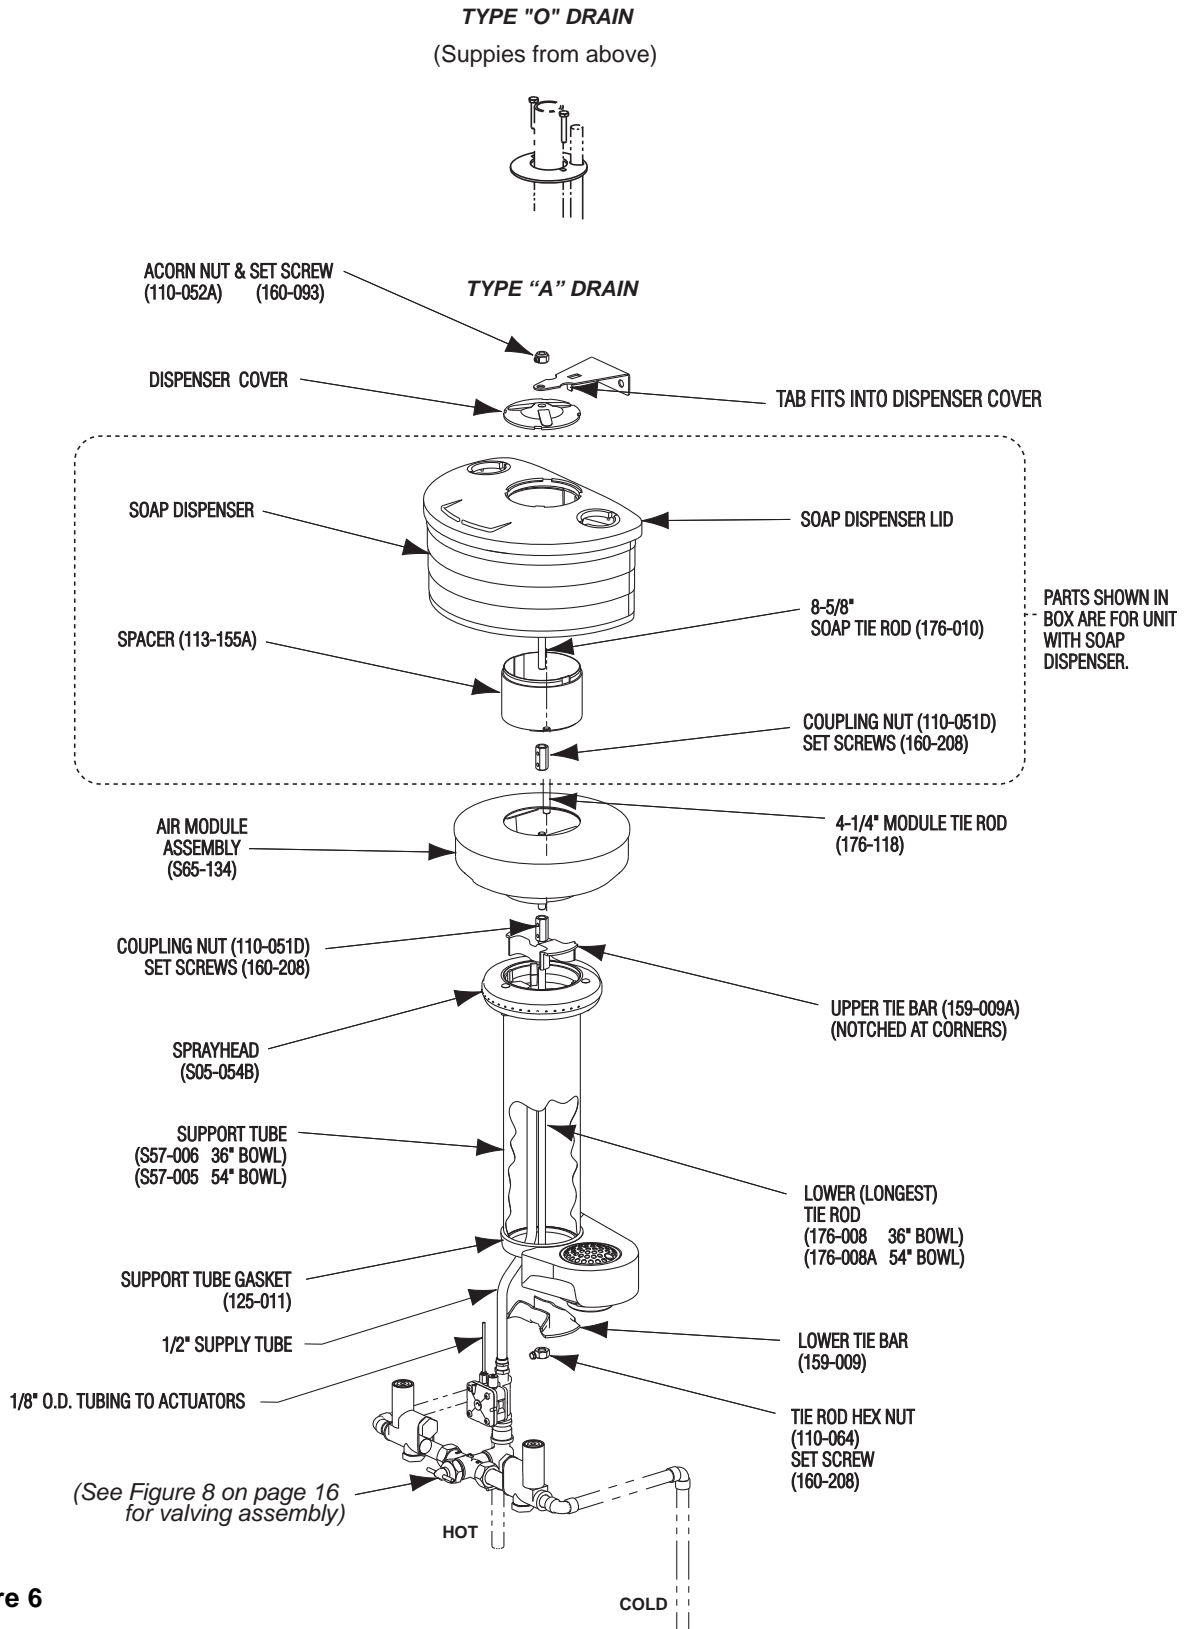

Figure 6
1. Install hemmed end (not sharp end) of support tube (welded seam toward wall) with gasket onto bowl as shown in Figure 6 on page 13.
3. Place sprayhead with 1/2" tubing onto support tube as shown in Figure 6. Run tubing down through support tube. *Make sure spray holes point away from the wall.*
4. Assemble the lower tie rod (the longer threaded rod), upper tie bar (notched at corners), lower tie bar, tie rod nut, and coupling nut, then attach the 4-1/4" tie rod to coupling nut as shown in Figure 6. Upper tie bar must be parallel to wall.
- 6a. **FOR UNITS WITH SOAP OPTION:** Install the spacer, soap dispenser and dispenser cover and restraining bracket using the coupling nut, third tie rod (8-5/8" long) and second coupling nut as shown (see Figure 6). Secure with acorn nut and socket head set screw. The tab on the restraining bracket should fit in a notch in the dispenser cover (see Figure 6).
- 6b. **FOR UNITS WITHOUT SOAP OPTION:** Secure module cover and dispenser cover and restraining bracket with acorn nut and socket head set screw. The tab on the restraining bracket should fit in a notch in the dispenser cover (see Figure 6).